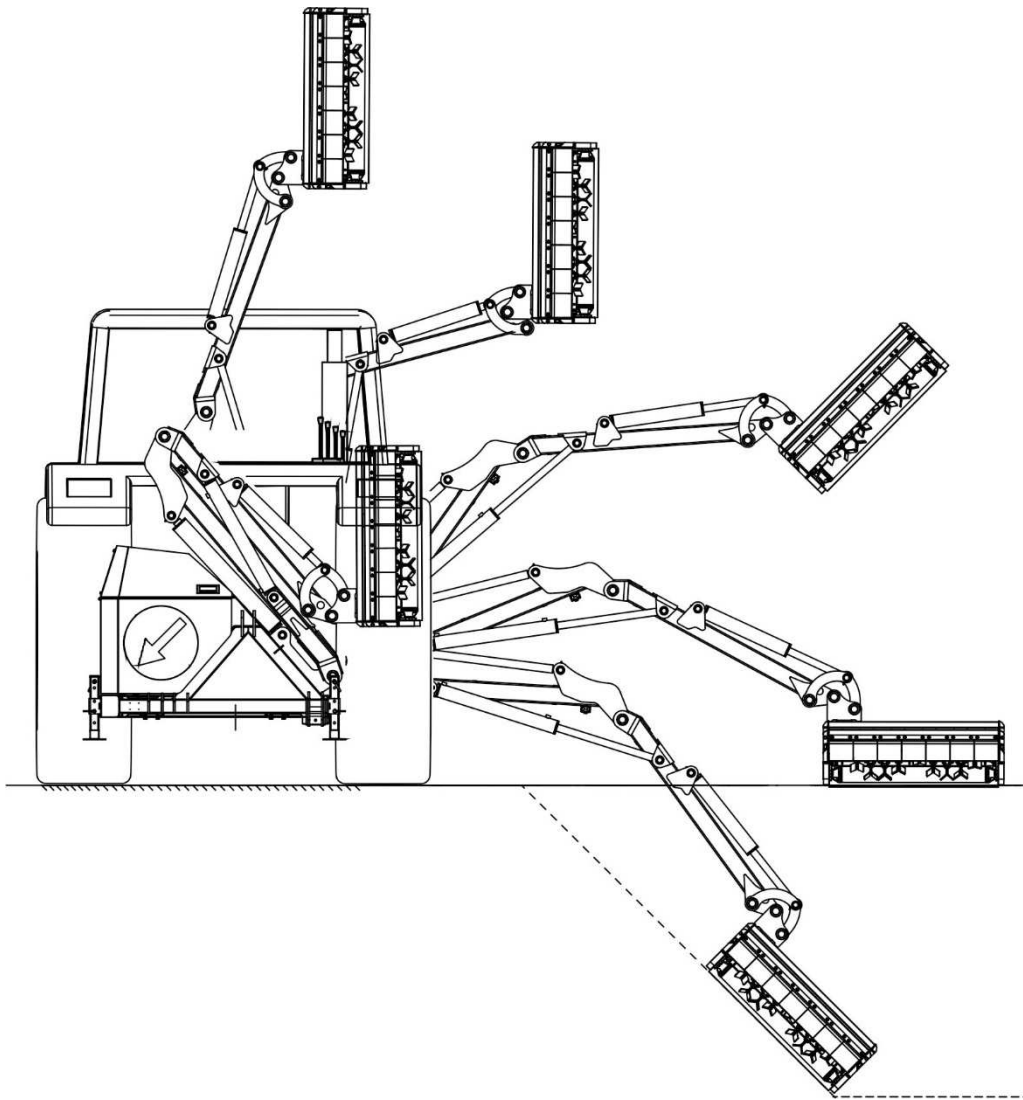

FIGURE 4.3 Examples of working positions of the mowing head on the multifunction arm.
- controlling appropriate hydraulic circuits in the tractor, set the arms of the multifunction arm so as to place the mowing head in the mowing area (FIGURE 4.3)